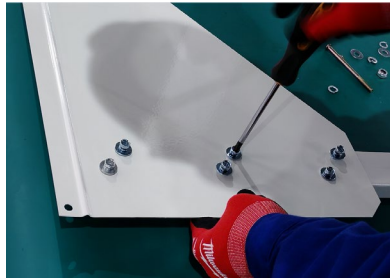

Figure 11
1. Assemble the tail plate and rod direction as shown Figure 11, with M8x16 Hexagonal cross combination screws, flat washer, and spring washer.